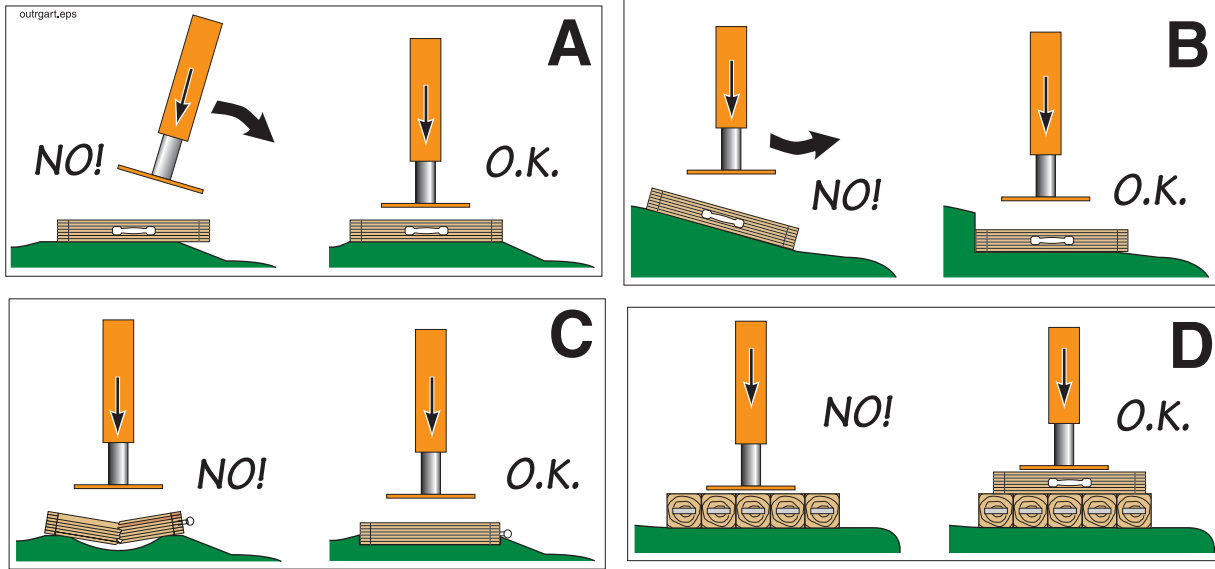

Figure 2
- Do not set the outrigger on uneven soil (Figure 2 A). If necessary, reposition the unit or level the soil.
- Do not set the outrigger on a hill (Figure 2 B). The force of the machine weight must be transmitted straight down. If you were to set up as shown in this example, the outrigger load would be partially down and partially sideways, putting undue strain on the outrigger leg.
- Do not bridge a hole with outrigger cribbing (Figure 2 C). If there is no soil contact over the hole, the pressure on the ends of the pad is much greater. The soil could give way or the cribbing could break.
- If you determine that you need five pieces of cribbing to support the load but the foot only touches three of them, the outrigger will sink into the soil. To avoid this problem, lay dunnage the opposite direction on top of the first layer (Figure 2 D). The top layer of dunnage must contact all pieces that are supporting it.